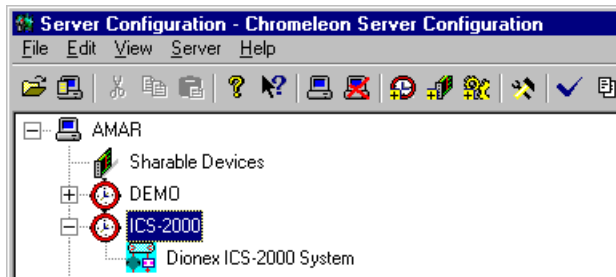

Figure B-17. Example: ICS-2000 Timebase
1. Follow the instructions in *Installing the Chromeleon Chromatography Management System with a Dionex Ion Chromatography (IC)* (Document No. 031883) to add the DX-LAN card to the server configuration as a sharable device.
2. Select the timebase that was created for the ICS-2000 (see Figure B-17); then, click the **Add device** icon  on the toolbar (or select **Edit>Add Device**).